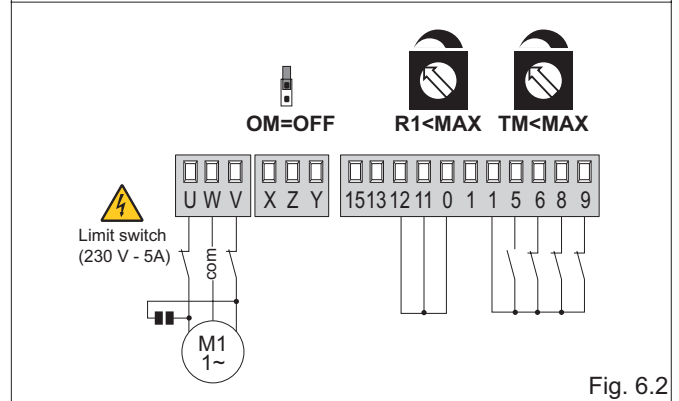

Fig. 6.2
- (Fig. 6.2) Door wing stops against limit switches and in the event of obstacle detection.